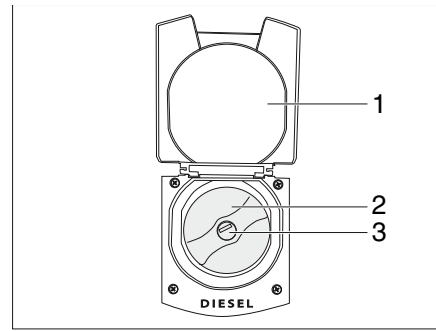

Fig. 33 Opened cover flap for with fuel filler neck
- Close the cover flap (Fig. 33,1).